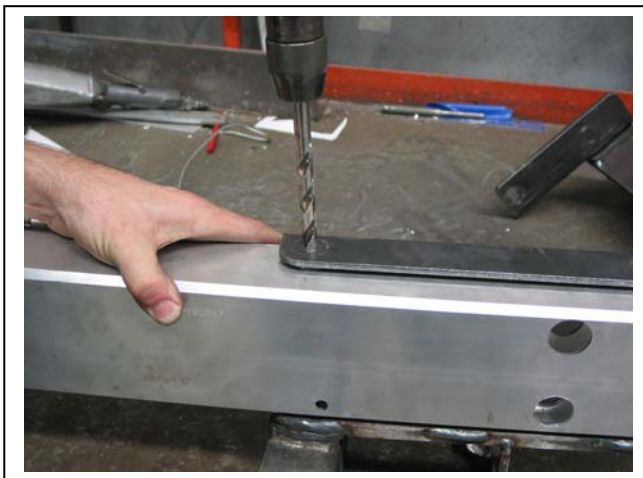

Figure 3
11. Drill 10mm holes in top of alloy cross member using steel mounting brackets as a guide, attach with 3/8 x 1 ¼ bolts and washer on 400mm wire, 3/8 nuts, flat and spring washers (supplied). **See figure 3. TIGHTEN BOLTS.**